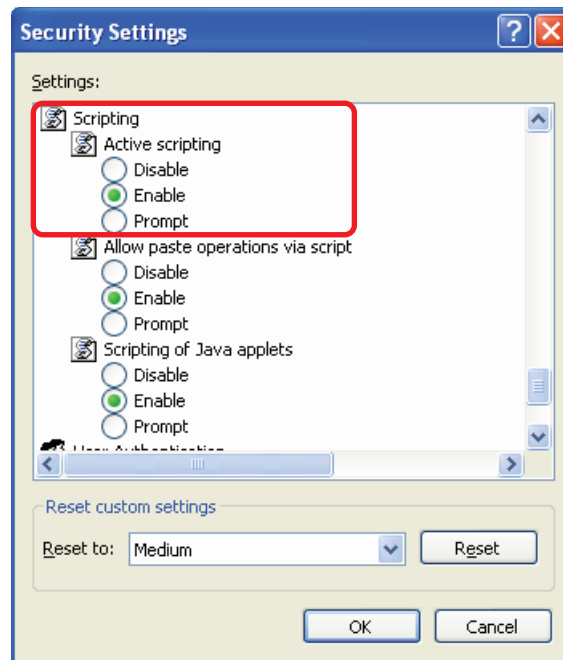

Figure 118. Custom Level Security Options
5. Scroll down to the **Scripting** setting and under **Active scripting**, select **Enable** (see figure 118).